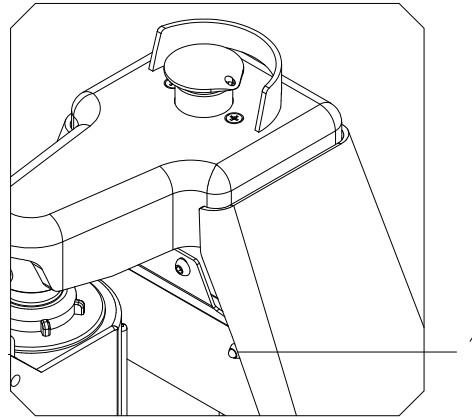

Figure 11
- 8.2.2 When the truck is in low voltage, drag the truck to the charging position. Press the emergency stop lock button to turn off the power supply. Connect charger with truck charging port. Connect charger input with an external power supply to charge. Red lamp of charging indicator 1 will be lighted, as shown in Figure 11.